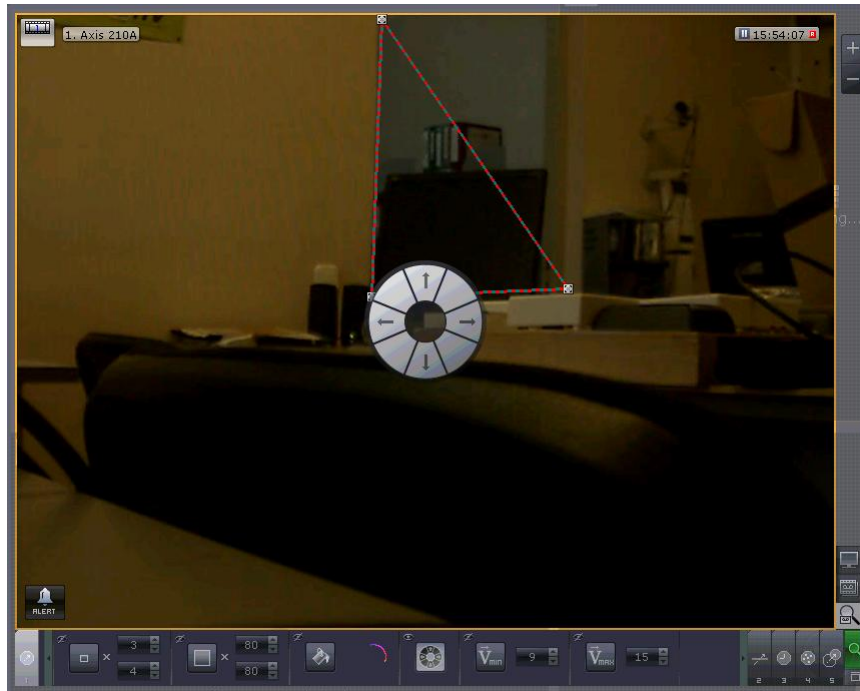

Fig. 7.3—75 Disabling a search for motion in one or several directions
2. When you do this, a visual element consisting of 8 sectors corresponding to 8 directions will appear (Fig. 7.3—75).